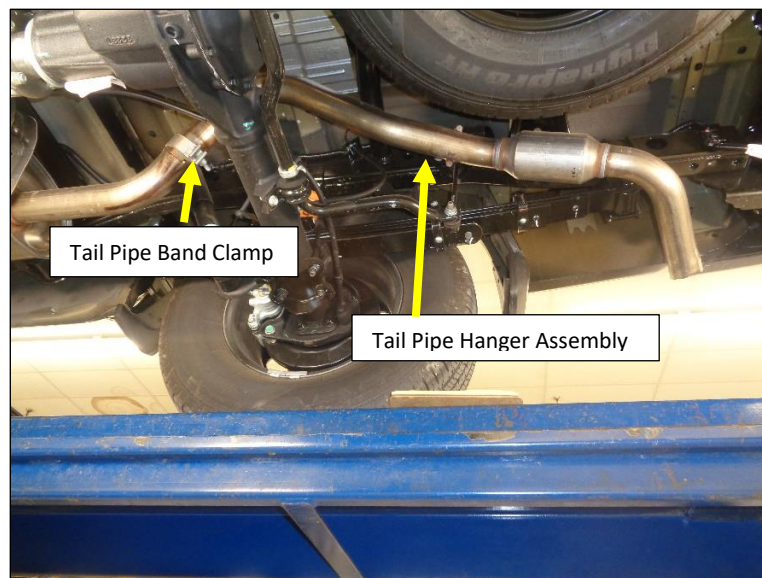

Figure 1
3. Remove the M8 bolt from the tailpipe hanger assembly bolted to the frame just over the axle . **Fig.1**
4. Remove the rubber tailpipe hanger and remove the tailpipe. **Fig. 1**